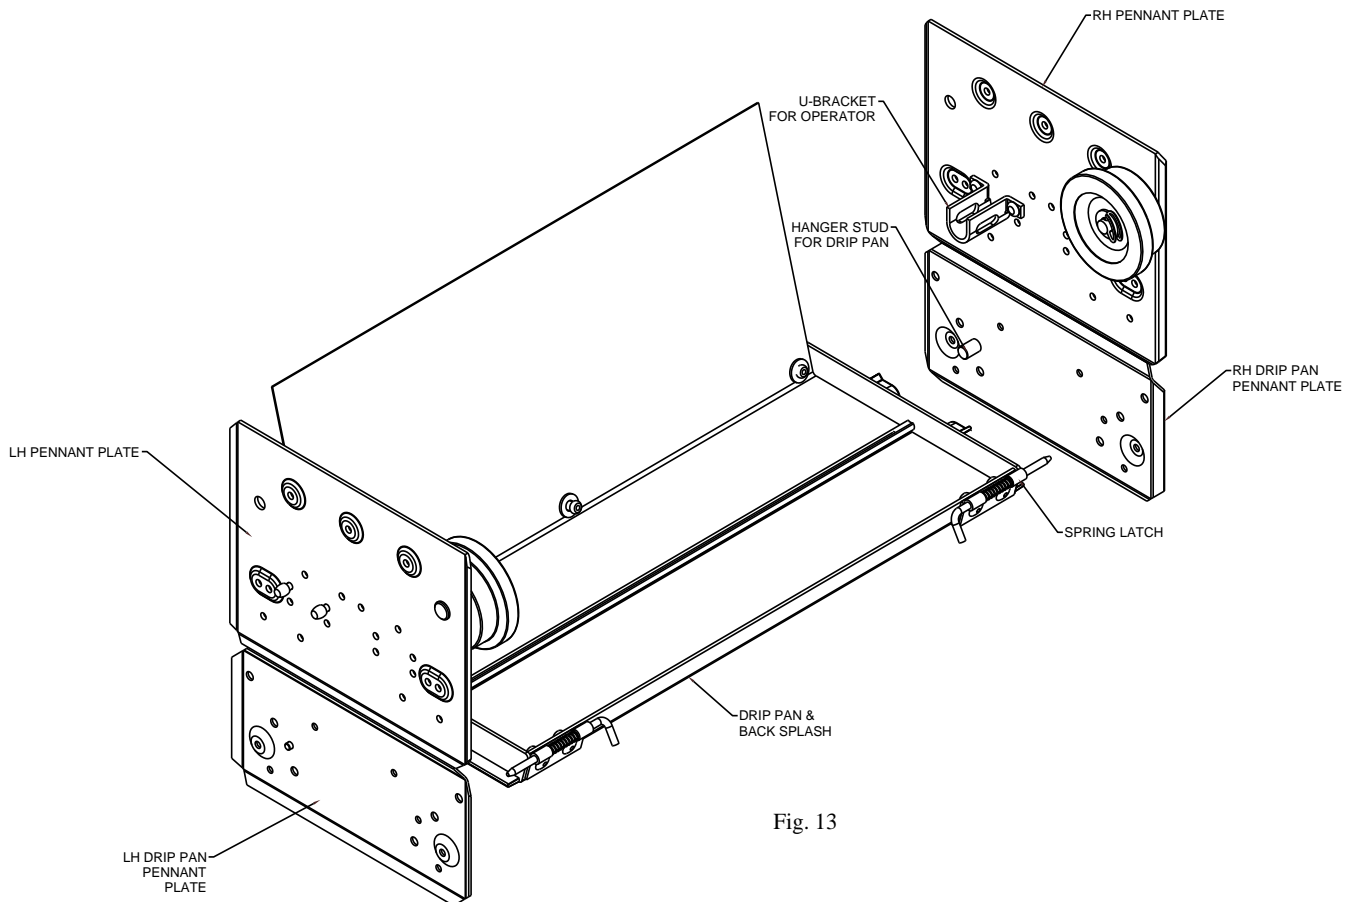

Fig. 13
- a) Mount drip pan pennant plates as shown per instruction #4. First, determine what size pennant plate you have by referencing the label on the back of the plate. If the pennant plate is an A, B, or C; place the drip pan pennant plate flush up against the existing pennant plate as shown in Fig. 13. Making sure the hanger stud is placed on the same side of the U-Bracket as shown. For D size pennant plates the top of the drip pan plates will need to be mounted 3" below the pennant plate.